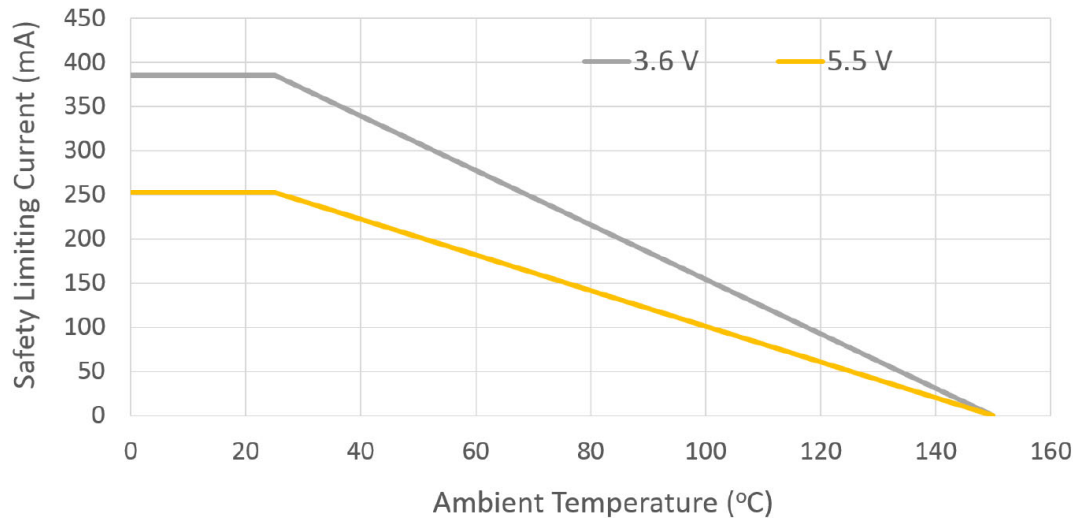
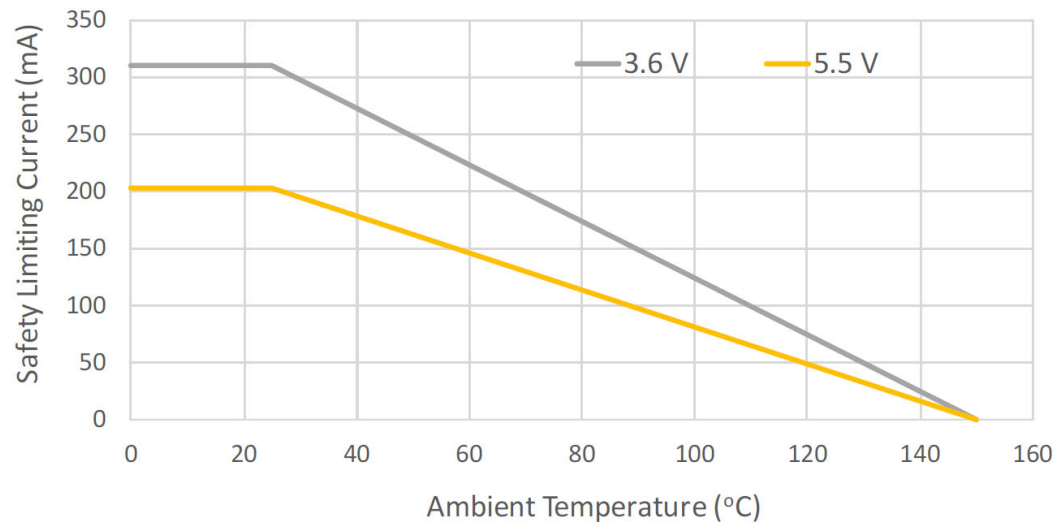

Figure 39. WB Stretched SOIC-8 Thermal Derating Curve (Dependence of Safety Limiting Current)
Figure 40. NB SOIC-8 Thermal Derating Curve (Dependence of Safety Limiting Current)
1. Maximum value allowed in the event of a failure. Refer to the derating curves Figure 39, "WB Stretched SOIC-8 Thermal Derating Curve (Dependence of Safety Limiting Current)," on page 18 and Figure 40, "NB SOIC-8 Thermal Derating Curve (Dependence of Safety Limiting Current)," on page 18.